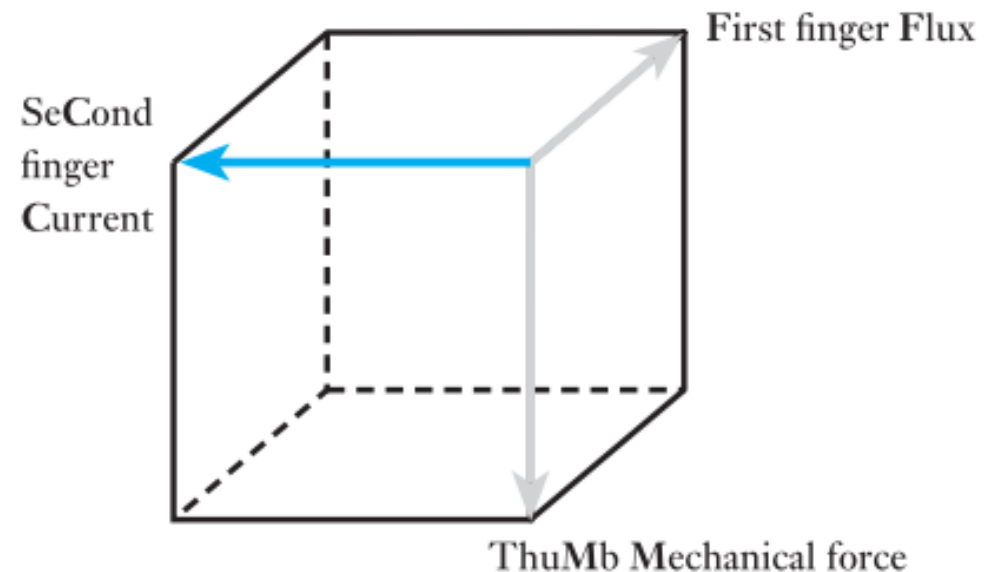

Fig. 1.11: Left-Hand Rule demonstration
- Hold the thumb, first finger and second finger of the left hand in the manner indicated, whereby they are mutually at right angles as shown in fig.1.11.